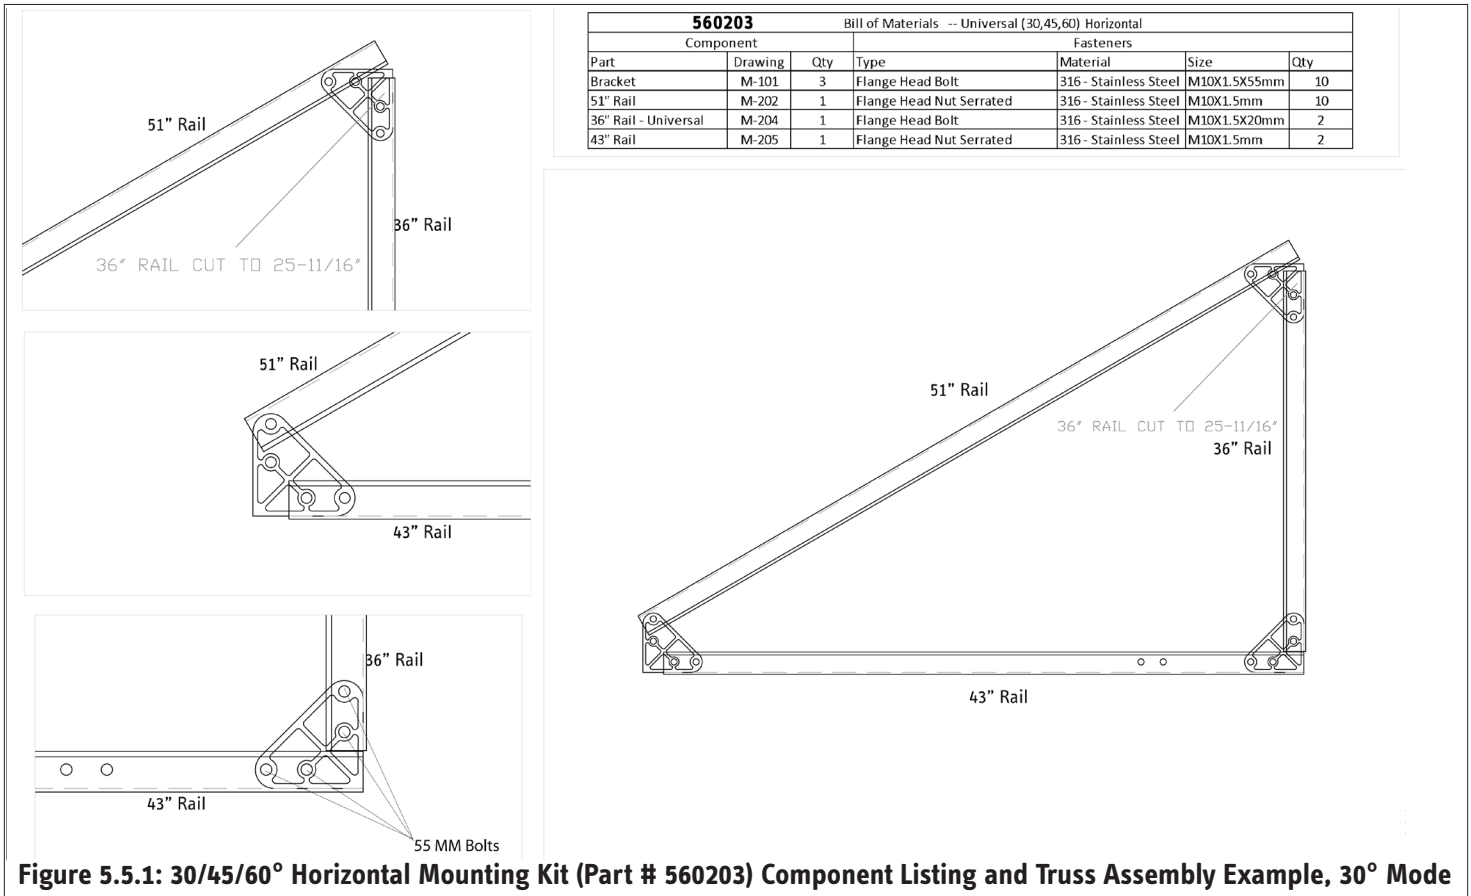

Figure 5.5.1: 30/45/60° Horizontal Mounting Kit (Part # 560203) Component Listing and Truss Assembly Example, 30° Mode
2. Assemble 2 triangular trusses using the 36" rails (M-204), the 51" rails (M-202), the 43" rails (M-205), the brackets (M-101), and the 55 mm bolts as shown in Figure 5.5.1. Note that the 36" rail is cut to 25 11/16".